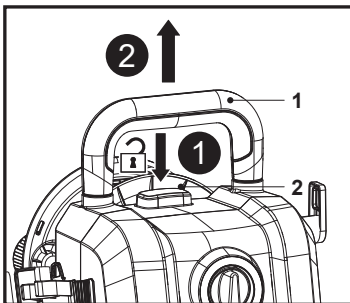

Fig. 16
1. Press and hold the handle lock button (2), then pull the transport handle (1) all the way to stop (Fig. 16).